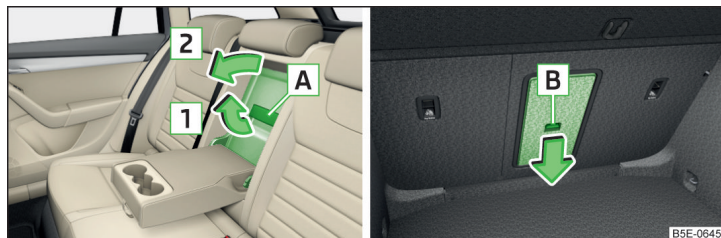

Fig. 95 Open the cover: from the passenger compartment / from the luggage compartment
- Pull handle **A** in the direction of arrow **1** and fold down the cover in the direction of arrow **2** » Fig. 95.
- Fold the rear armrest and the cover in the seat backrest downwards » Fig. 95 on page 90.